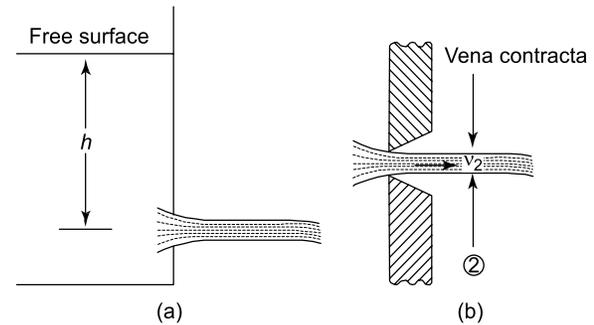

Figure 23.13
Consider the flow of a liquid through a small orifice, as shown in Figures 23.13(a) and (b), where it can be seen that the vena contracta (VC) lies just to the right of the orifice. The cross-sectional area of the fluid is the smallest here and its decrease in area from the orifice is measured by the coefficient of contraction ( $C_c$ ).
3. If in Figure 23.13,  $h = 6$  m,  $C_c = 0.8$ ,  $C_v = 0.7$ , determine the values of  $C_d$  and actual  $v_2$ .
4. If in Figure 23.13,  $h = 10$  m,  $C_c = 0.75$ ,  $C_v = 0.65$ , and the cross-sectional area is  $1.5 \times 10^{-3}$  m2, determine the discharge and the actual velocity  $v_2$ .